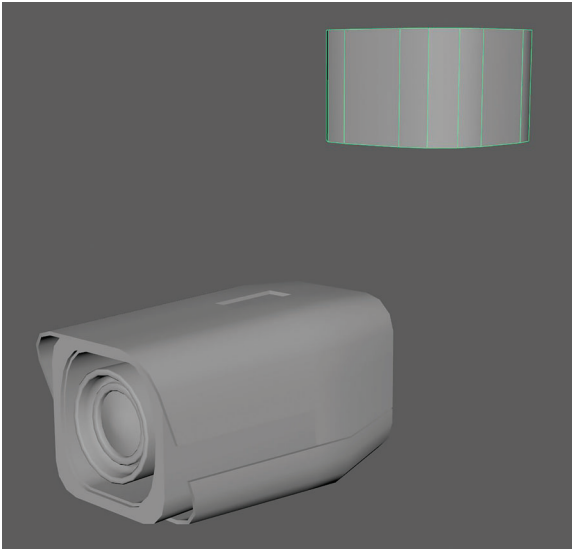

FIGURE 1.25 Using the same techniques covered above to create the base of the camera.
Step 22: Base. Create a cube, set the Scale X and Scale Z of the box to 13, and set the Scale Y to 8. Grab the vertical edge of the cubes and press Ctrl+B to bevel them. Change the Fraction to 0.62 and Segments to 3. Move it to the back of the camera body and drag it higher (Figure 1.25).